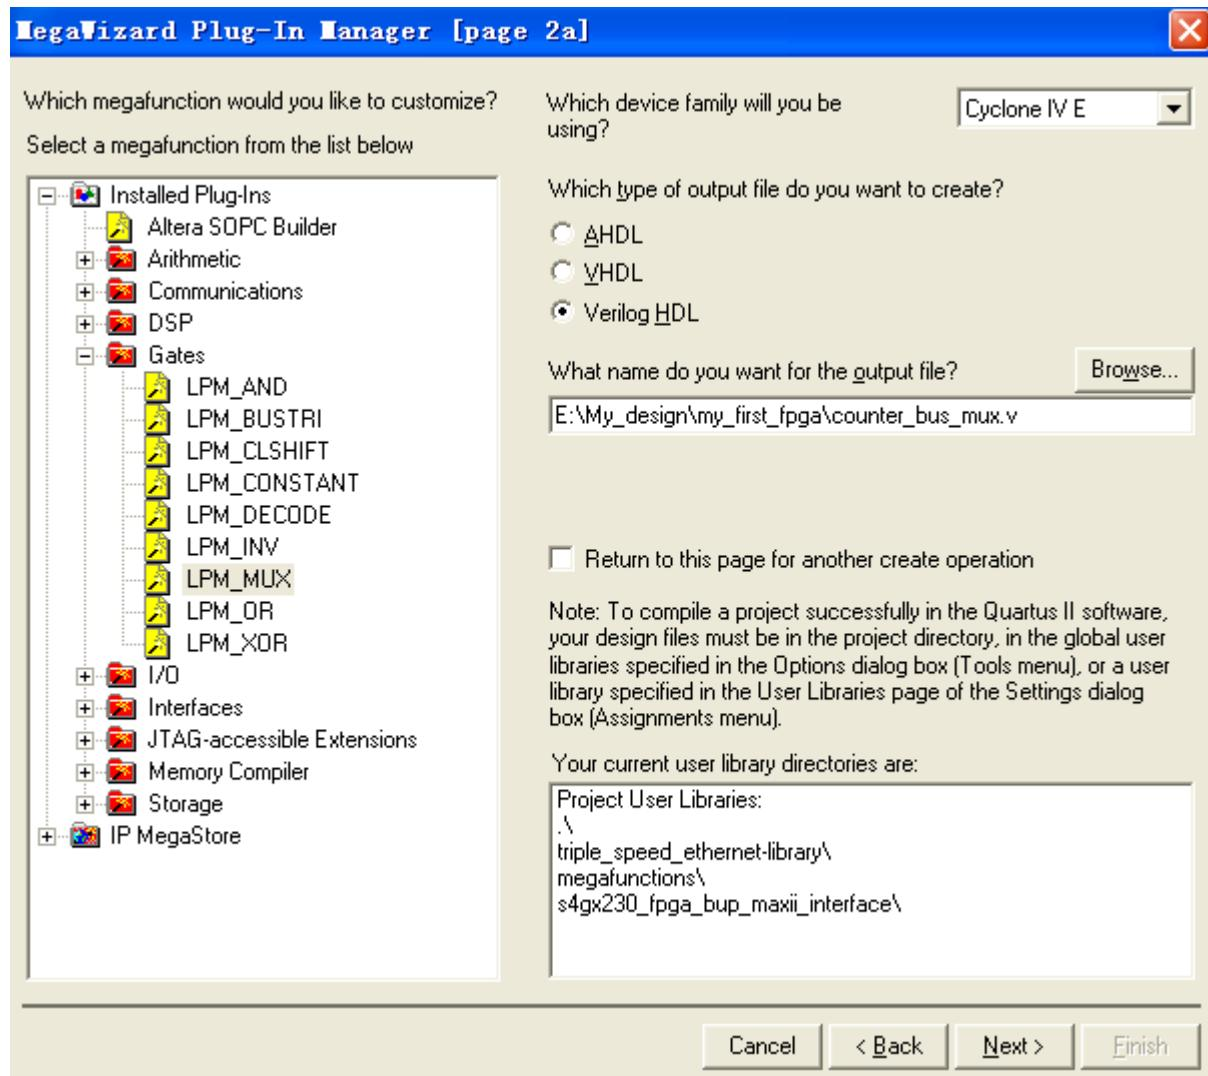

Figure 3-22 Selecting lpm_mux
5. Choose the device family that corresponds to the device on the development board you are using, choose Verilog HDL as the output file type, and name the output file counter_bus_mux.v (see **Figure 3-22**).